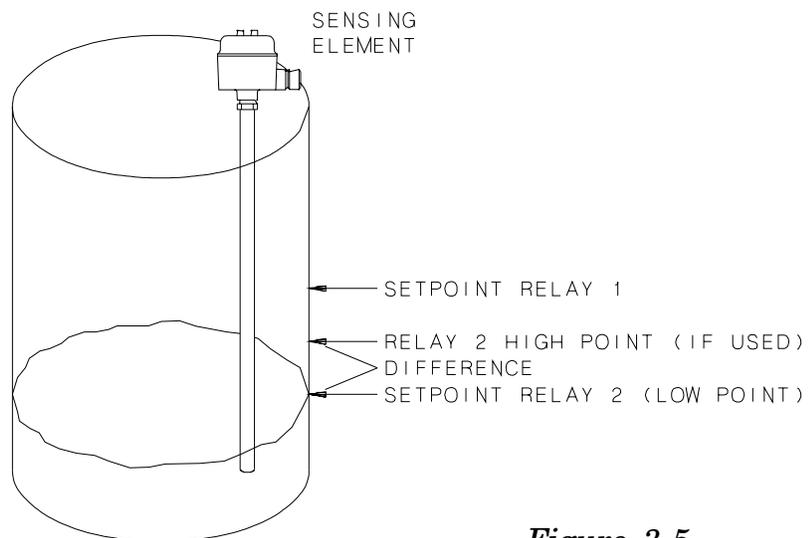

Figure 3-5
- Raise or lower the material to the low setpoint of *Relay 2*. See Figure 3-5.